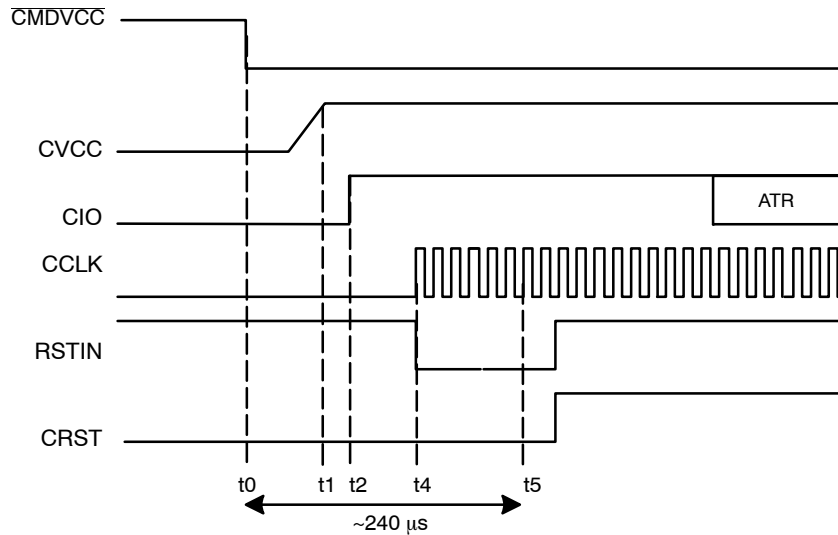

Figure 4. Activation Sequence – RSTIN Mode (RSTIN Starting High)
The clock can also be applied to the card using a **RSTIN mode** allowing controlling the clock starting by setting RSTIN Low (Figure 4). Before running the activation sequence, that is before setting Low $\overline{\text{CMDVCC}}$ RSTIN is set High. The following sequence is applied:
- Between t2 (Figure 4) and t5 = 240 μ s, RSTIN is reset to LOW and CCLK will start precisely at this moment allowing a precise count of clock cycles before toggling CRST Low to High for ATR (Answer To Reset) request.